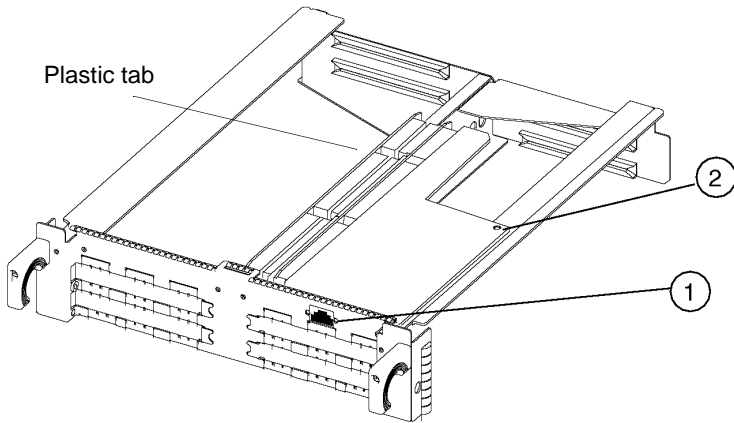

Figure 5-19
- 2 In an EISA card cage, remove the two HP HIL connector screws (1 in Figure 5-19) located on the front of the cage to free the connector.
- 3 Remove the screw (2 in Figure 5-19) on the converter board.